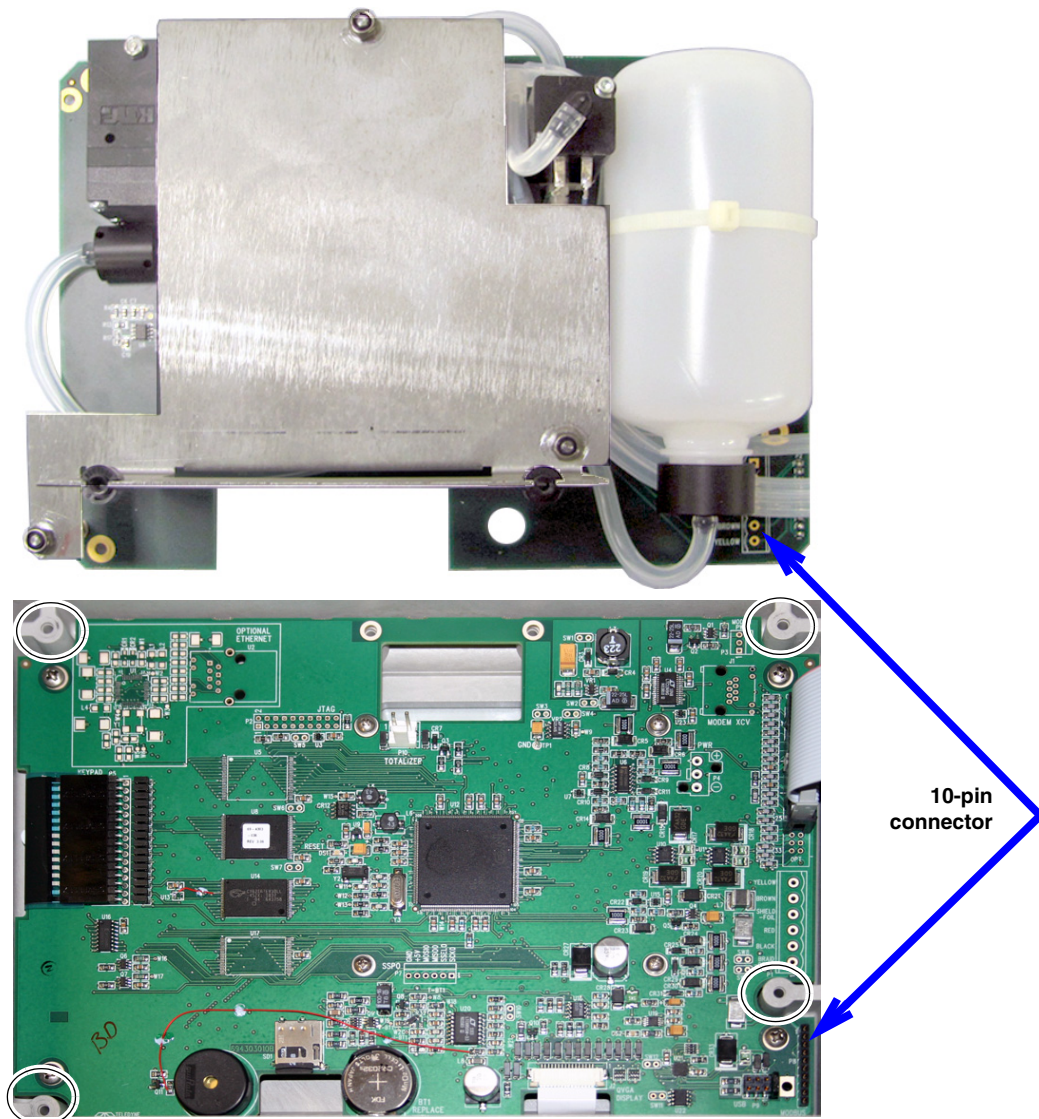

Figure 6-12 330 Bubbler assembly installation
6.7.3 Installation Procedure Referring to Figures 6-12, and 6-14, perform the following steps.